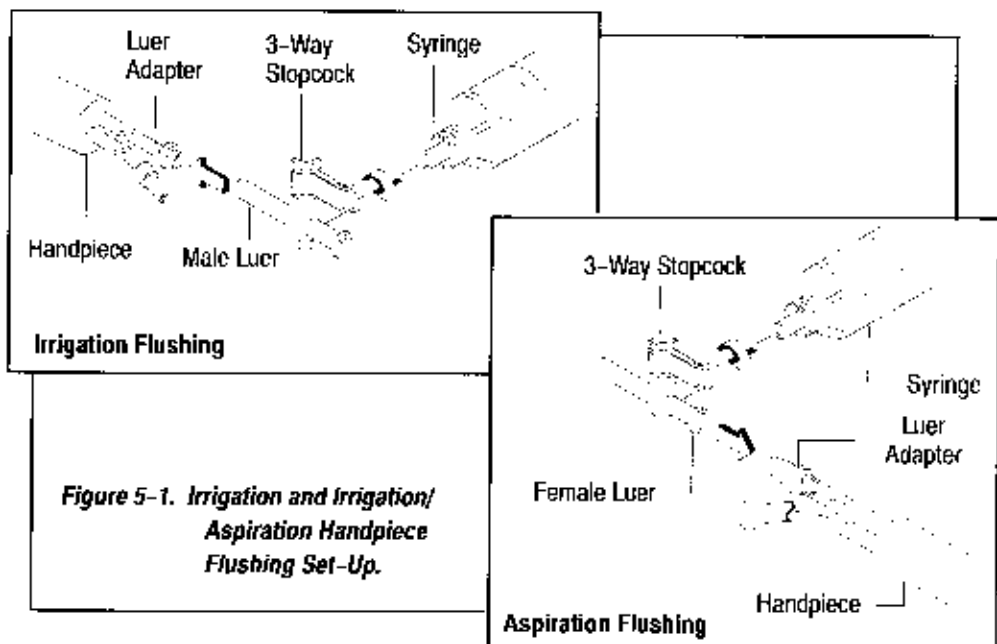

Figure 5-1. Irrigation and Irrigation/Aspiration Handpiece Flushing Set-Up.
- E. Connect the end of the syringe to the center stopcock fitting (see figure 5-1).